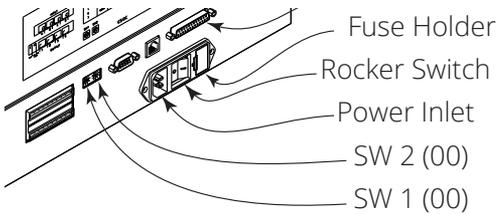

Fig. 36 — Rear panel showing the fuse holder location
A blown fuse may be replaced with a replacement fuse in the fuse holder (Fig. 36). If the replacement fuse blows, it indicates the existence of a serious electrical problem. Call WPI Technical Support at 866.606.1974 or email at technicalsupport@wpiinc.com.
2. Locate the fuse holder on the rear panel (Fig. 36).